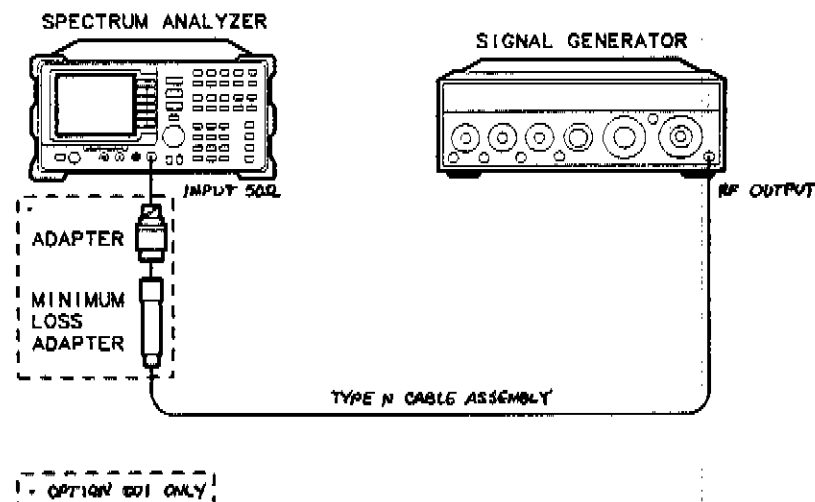

Figure 1-5. System Related Sidebands Test Setup
- Connect the equipment as shown in Figure 1-5.